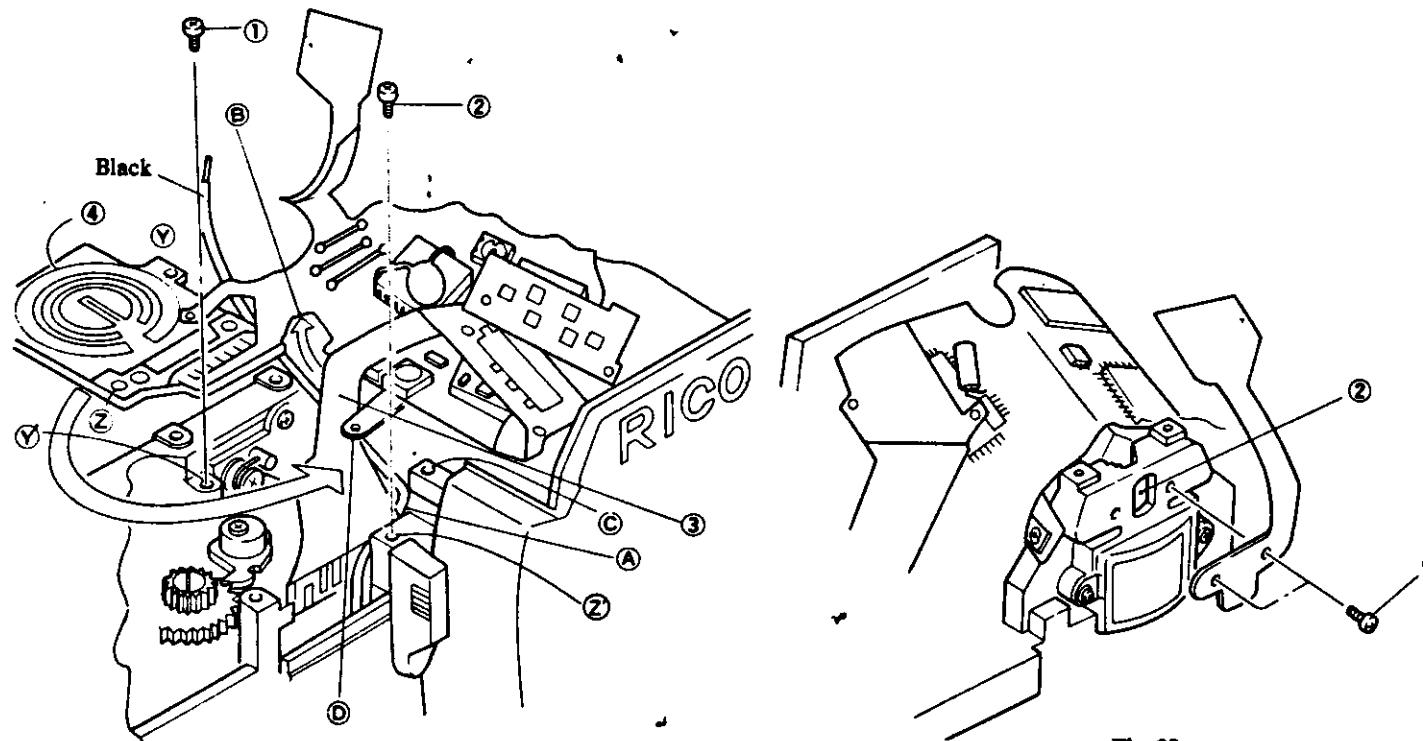

Fig. 31
SHUTTER RESISTOR PLATE SIDE (see Fig. 31)
- 6) Fix BLACK LEAD WIRE between the body and the shutter as shown A portion in Fig. 31 and set it along the Prism cover.